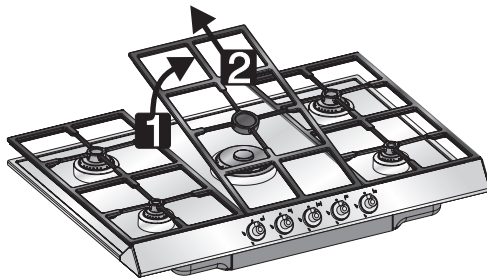

Fig. 1)
- Remove the pan stands (Fig.1) by lifting them from the back (1) and extracting them (2). (On 70 cm cooktops remove the central pan stand first; on 60 cm cooktops the right-hand pan stand must be removed first);